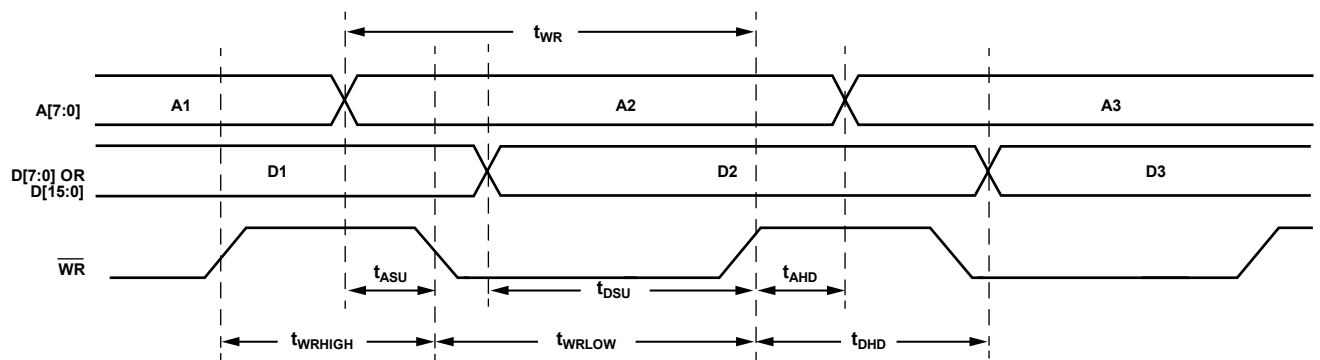

Figure 47. Parallel Port Write Timing Diagram
**Table 13. Parallel Port Write Timing (See Figure 47)**